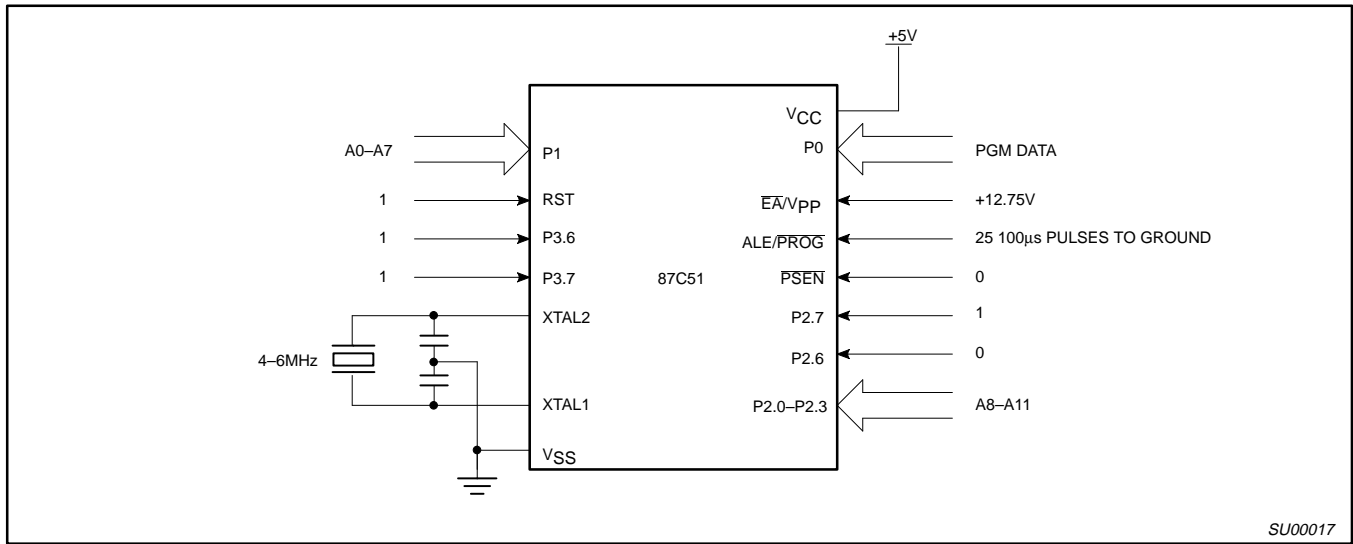
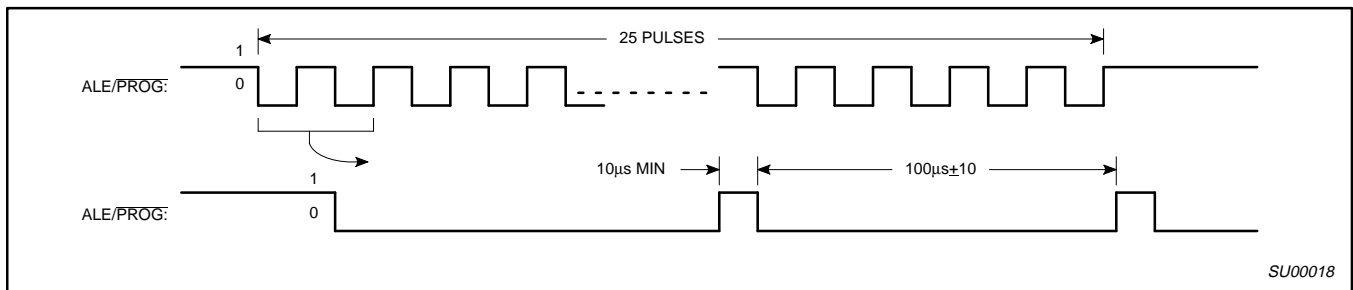
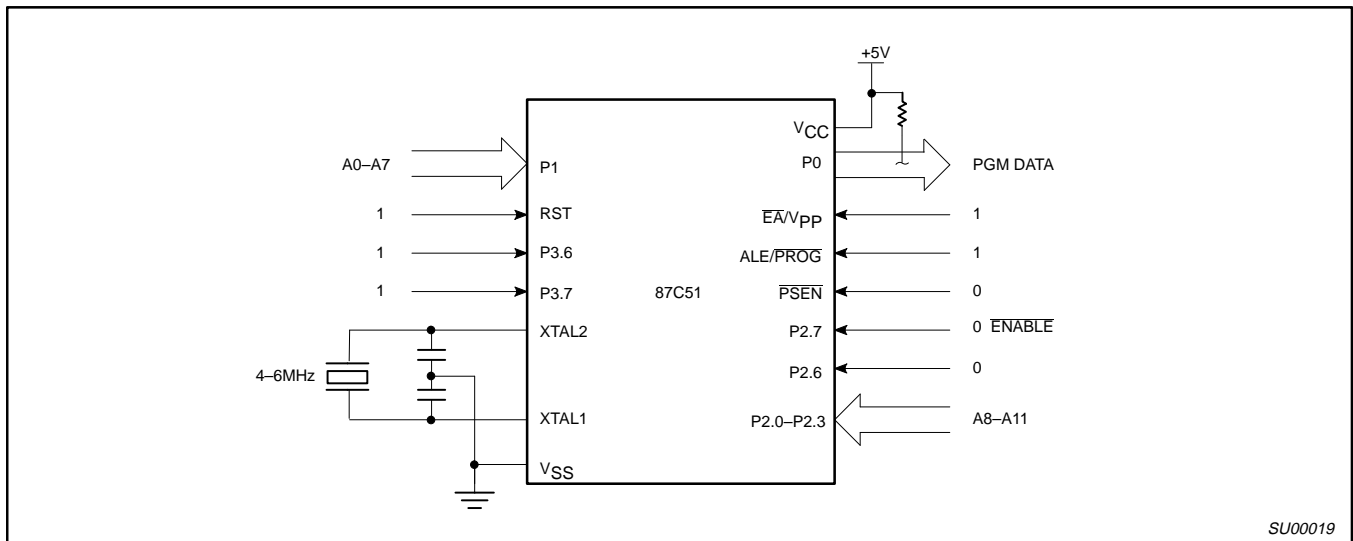

Figure 13. Programming Configuration
Figure 14. PROG Waveform
Figure 15. Program Verification
Table 3 shows the logic levels for reading the signature bytes, and for programming the program memory, the encryption table, and the security bits. The circuit configuration and waveforms for quick-pulse programming are shown in Figures 13 and 14. Figure 15 shows the circuit configuration for normal program memory verification.
The setup for microcontroller quick-pulse programming is shown in Figure 13. Note that the 87C51 is running with a 4 to 6MHz oscillator. The reason the oscillator needs to be running is that the device is executing internal address and program data transfers.
The address of the EPROM location to be programmed is applied to ports 1 and 2, as shown in Figure 13. The code byte to be programmed into that location is applied to port 0. RST, \overline{PSEN} and pins of ports 2 and 3 specified in Table 3 are held at the 'Program Code Data' levels indicated in Table 3. The ALE/PROG is pulsed low 25 times as shown in Figure 14.
If security bit 2 has not been programmed, the on-chip program memory can be read out for program verification. The address of the program memory locations to be read is applied to ports 1 and 2 as shown in Figure 15. The other pins are held at the 'Verify Code Data' levels indicated in Table 3. The contents of the address location will be emitted on port 0. External pull-ups are required on port 0 for this operation.
* FOR PROGRAMMING VERIFICATION SEE FIGURE 13.
FOR VERIFICATION CONDITIONS SEE FIGURE 15.